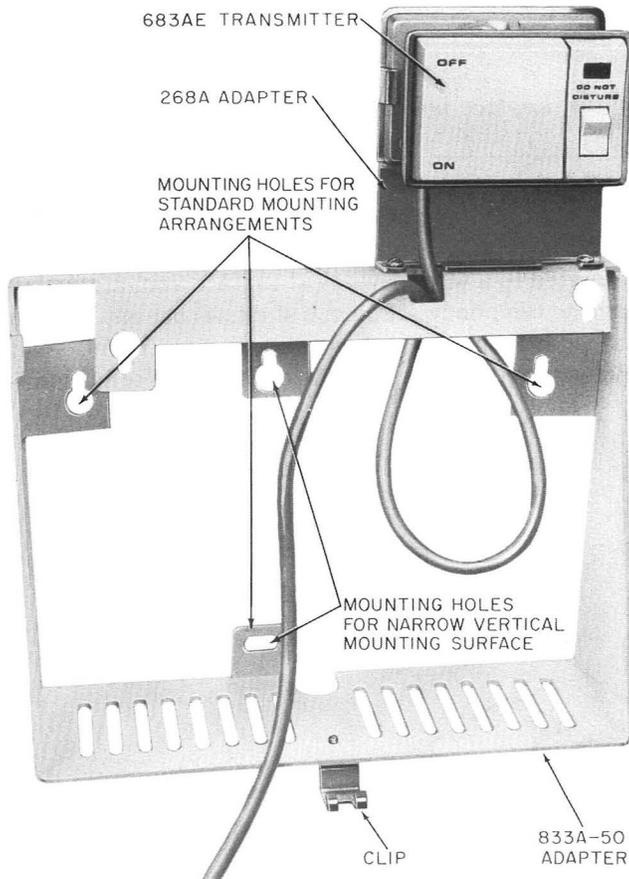

Fig. 4—833A-50 Adapter with 268A Adapter and 683AE Transmitter
3.02 All DM and EM (wall type) sets are shipped with an 833A-50 adapter, screw, and clip (Fig. 4) which are used for mounting the telephone set to a vertical surface. Install the 833A-50 adapter and telephone set as follows.
(4) Secure the telephone set base with the clip, and screw at the bottom of the adapter (Fig. 4).
(5) Install telephone set options (see paragraph 3.05).
(6) Replace housing and faceplate.
- (1) If feature is to be added to DM- or EM-type set, a 268A adapter must be used as follows.
- (a) Mount 268A adapter onto 833A-50 adapter with two screws as shown in Fig. 4 with the tabs of the 268A adapter facing outward from the vertical surface. The 683AE-50 transmitter is secured by sliding
- (4) Included as part of the 683AE transmitter (furnished with the HFAI feature) is a manual DO-NOT-DISTURB switch. Depression of the switch (Fig. 4) prevents voice signaling,